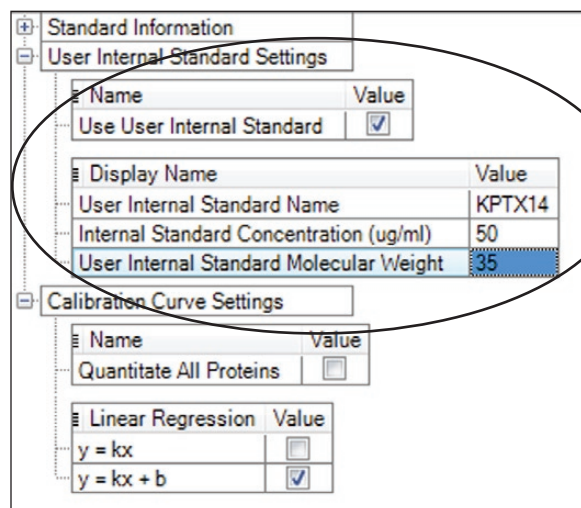

Fig. 5.2. Internal Std. and Std. Protein Calibration Curve window.
4. In the **Internal Std. and Std. Protein Calibration Curve** window (Figure 5.2), select **Use User Internal Standard** and enter the name, concentration, and molecular weight (MW) of the internal standard. Click **Apply** and then **Close**. The new concentrations appear in the Results table under the **Concentration (ng/μl)** column (Figure 5.3).